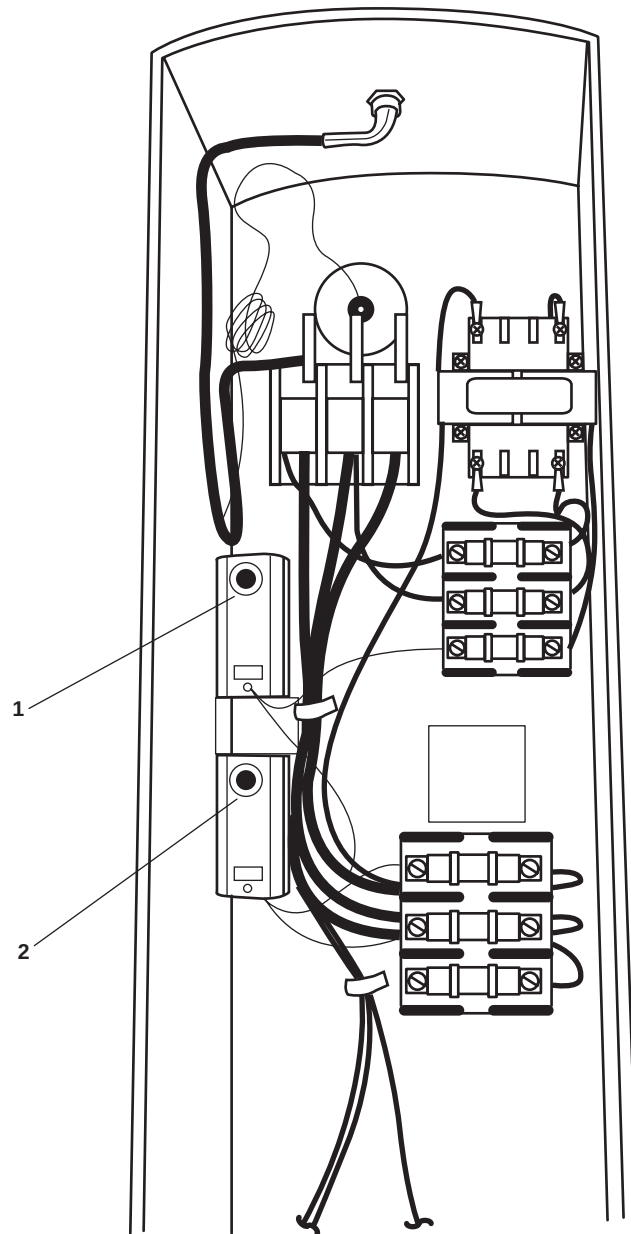

Figure 2. Water Heater Temperature Controls
2. Adjust the cutout thermostat control (figure 2, item 1) to the desired temperature.
3. Adjust the cutin thermostat controls (figure 2, item 2) to the desired temperature.